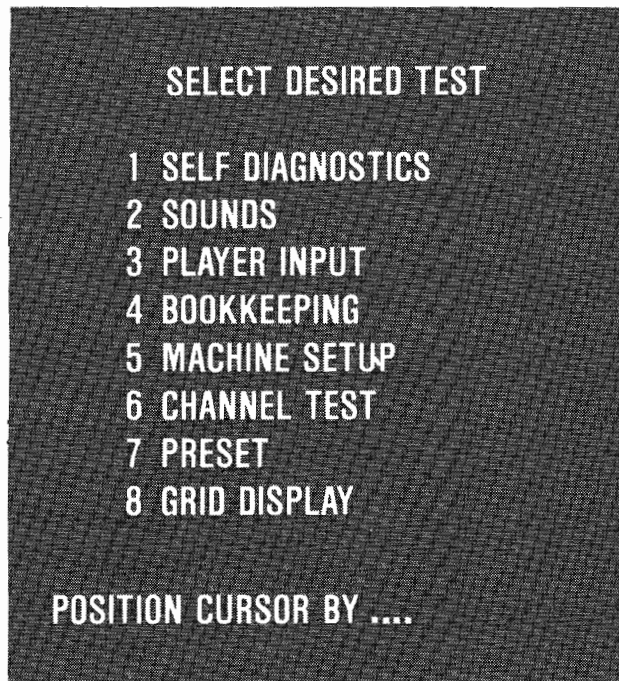

Figure 6-1 Self-Test - Menue
The Self-Test mode has eight (8) major categories as illustrated by Figure 6-1.